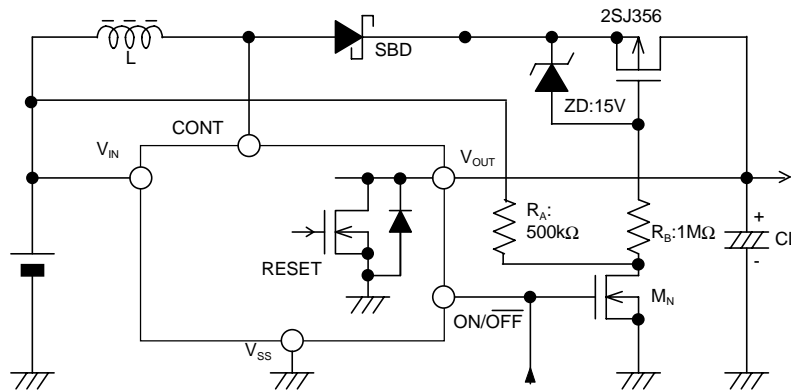

Figure 6 Circuit Example Using 2SJ356
Figure 6 shows a circuit example using the NEC 2SJ356 (Pch MOS FET) as a current cutting switch. This circuit example turns ON and OFF the 2SJ356 in connection with the reset signal to the power off pin using a small signal transistor M_N (Nch MOS FET). A Zener diode (ZD) is used for the purpose of clamping voltage so as not to apply high voltage (20V or more) of the rated voltage between the gate and the source of the 2SJ356. However, when the circuit is used at 20 V or below, a Zener diode is not needed. Invalid current flowing into resistors R_A , R_B during step-up operation may affect the efficiency. Set R_A , R_B to the maximum level. If you set the resistance of R_A to the high value, a drop in the voltage occurs in resistor R_A due to off current of M_N and the current cutting switch 2SJ356 does not normally function. Be careful (Note that the efficiency characteristics shown in the reference data were measured without attaching a current cutting switch and is different from that shown in this example).